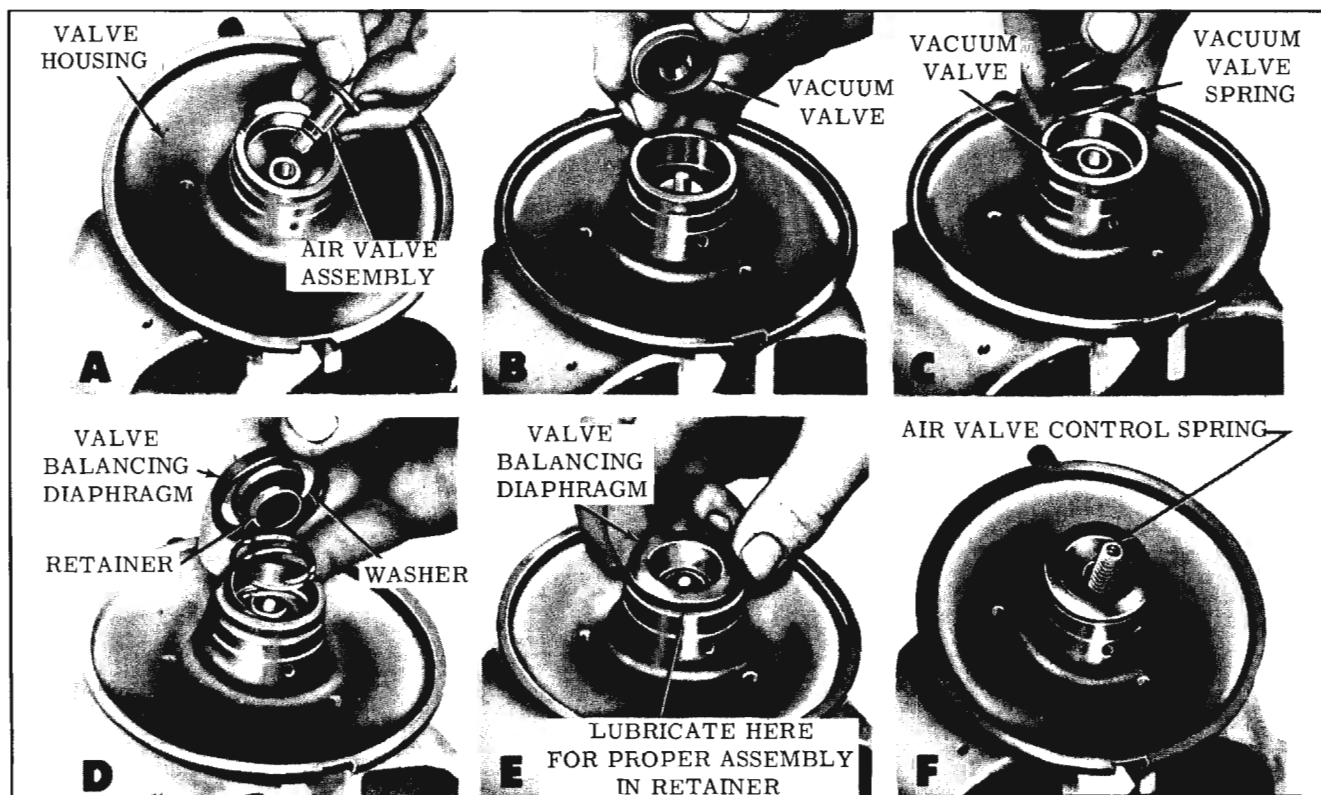

Fig. 7-126 Air Valve Disassembly and Assembly
10. Remove air valve control spring, valve balancing diaphragm, vacuum valve spring, vacuum valve assembly and air valve assembly from valve housing. See Fig. 7-126 taking steps in order F to A.
11. From the valve balancing diaphragm, remove the valve balancing washer and the valve balancing retainer. (Fig. 7-126-C) Discard the valve balancing diaphragm, vacuum valve assembly and air valve assembly.
2. Refer to Fig. 7-126 and re-assemble air and vacuum valve. Follow steps in order A to F. Install air valve assembly, then vacuum valve assembly. Install vacuum valve spring. Assemble washer into valve balancing diaphragm. Then assemble diaphragm retainer to valve balancing diaphragm with small diameter of retainer toward diaphragm; then install this assembly as shown, retainer first, being sure that diaphragm retainer is centered in vacuum valve spring, and that center bead in retainer is pressed down snugly and evenly over neck or hub of vacuum valve assembly. Wipe some lubriplate around outside diameter of valve balancing diaphragm.